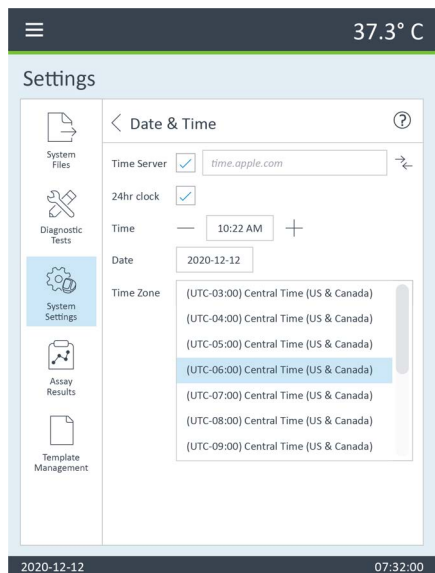

Figure 37. Select the local time zone for your XF HS Mini Analyzer
- 2 Select the **Date & Time** tab. (Figure 37)